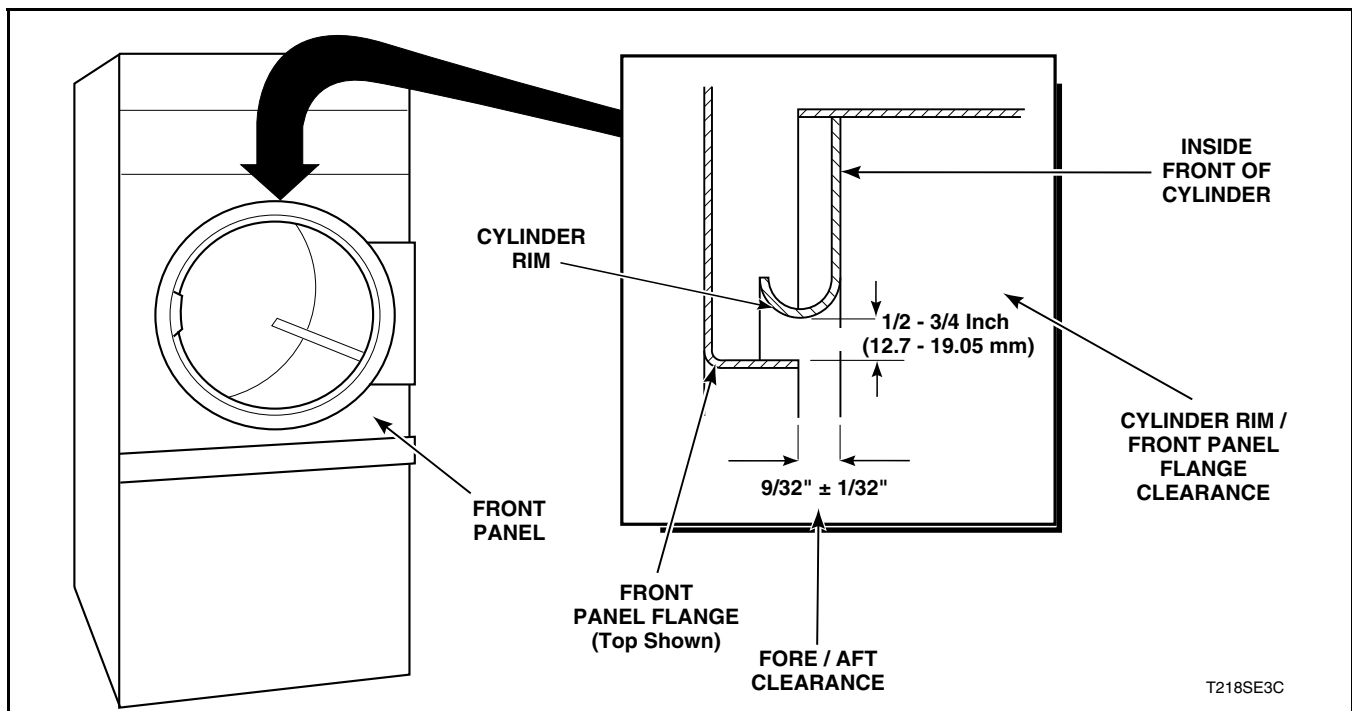

Figure 26
- Open loading door and check the gap between the center of the front panel top flange and the cylinder rim. Proper adjustment is when the gap is  $1/2 - 3/4$  inch (12.7 - 19.05 mm). Refer to Figure 26.